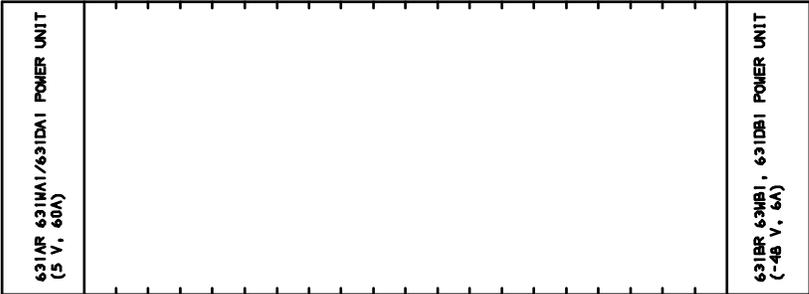

FIGURE 4-9. Power Unit Locations
1. See Note. Install the 631-type power units (removed from R1V3) into the port carrier. There are three different pairs of power units available. They are the 631AR1 and 631BR1, the 631WA1 and 631WB1, and the 631DA1 and 631DB1. Do not interchange the units. The 631AR1, 631WA1, or 631DA1 are installed in the left side, while the 631BR1, 631WB1, or 631DB1 are installed in the right side (see Figure 4-9).